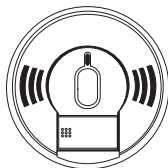

FIGURE 5
▲ CAUTION: WHEN WALL MOUNTING: UNIT MUST BE MOUNTED SO THAT THE BATTERY BOX FACES DOWN! (SEE FIGURE 5). INCORRECT ORIENTATION OF WALL MOUNTED SMOKE ALARMS WILL DECREASE OPERATIONAL EFFECTIVENESS.
5. Install the alarm on the mounting bracket and rotate the alarm clockwise until the alarm ratchets into place (this ratcheting function allows for aesthetic alignment). NOTE: The alarm will mount to the bracket in 4 positions (every 90 degrees). When wall mounting, make sure the battery box is at the bottom of the unit. (see Figure 5).